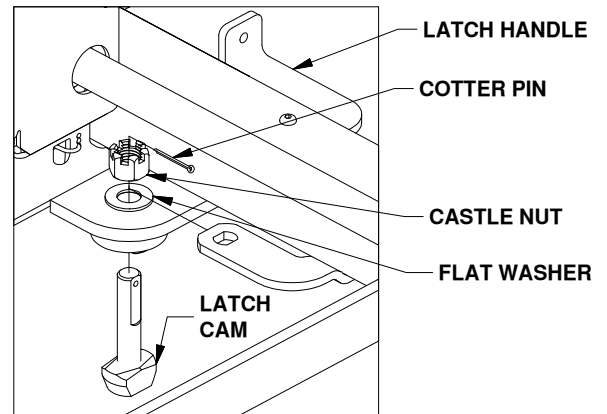

Figure B3: List of latch parts.
- 3. Adjust the tension in the latch handle,** for parts list and visual guide refer to Figures B3 and B4.